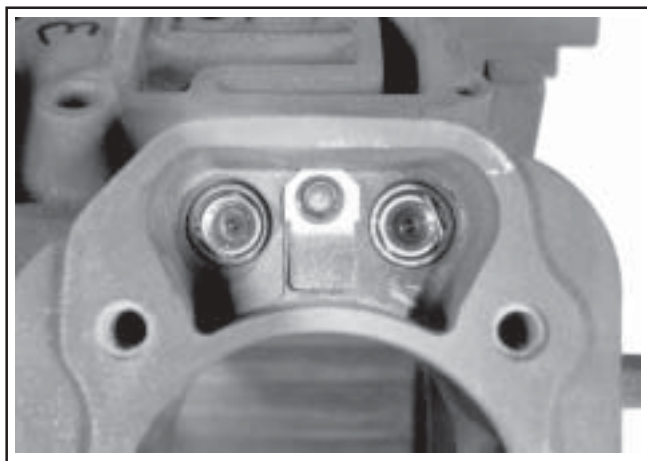

Figure 11-33. Installed Breather Reed.
4. If the breather reeds and stops were removed from the crankcase, reinstall them at this time and secure with the hex flange screw. Torque the screw to **4.0 N·m (35 in. lb.)**. See Figure 11-33.